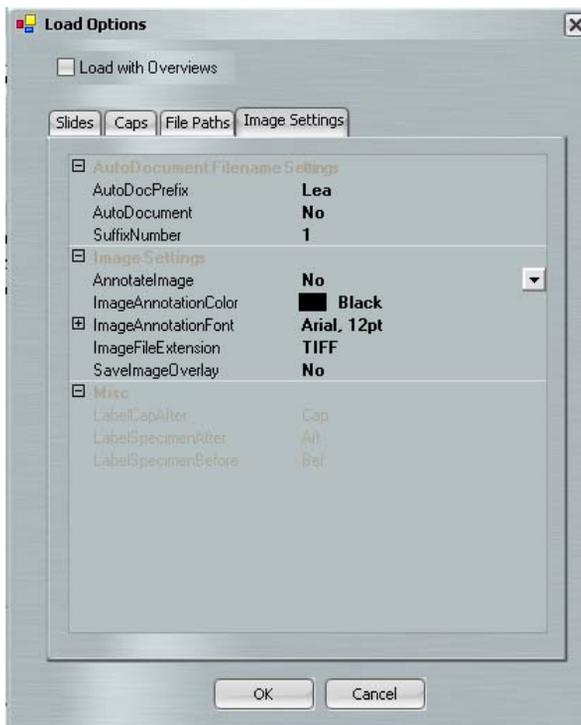

Figure 4.6: Image Settings tab in the Load Options dialog box.
- 1** When the Load Options dialog box is open, tap the Image Settings tab (see Figure 4.6.)